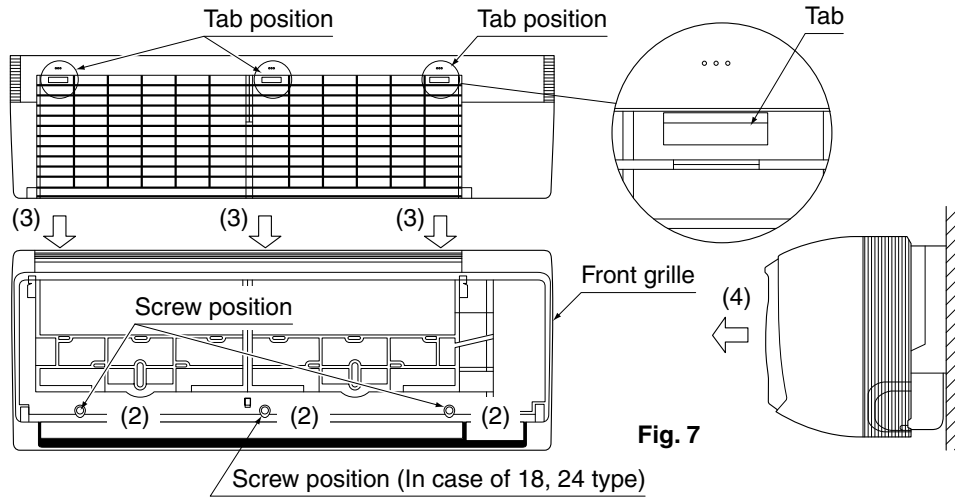
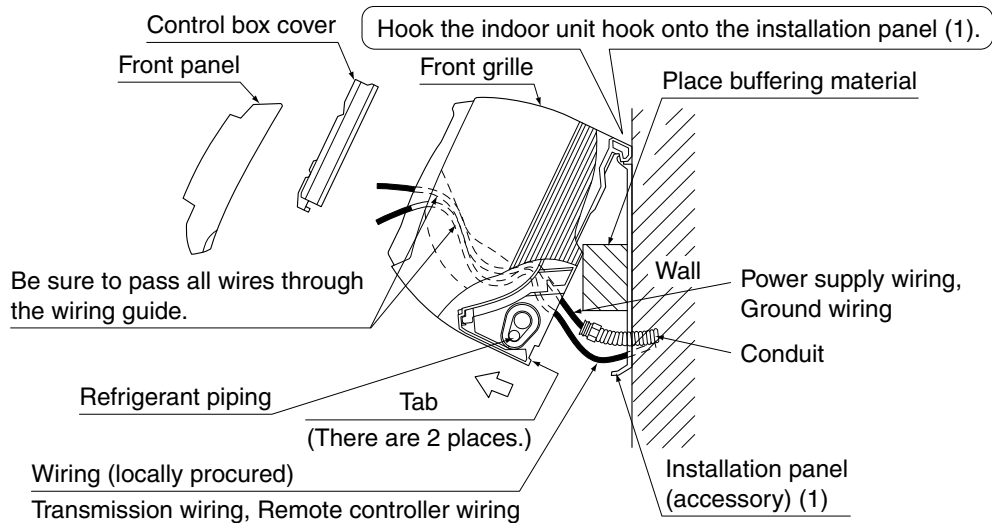

Fig. 7
Fig. 9
(6) Hook the indoor unit onto the installation panel. (Refer to Fig. 9)
(9) Push on both bottom edges of the indoor unit using both hands and hook the tab on the back of the indoor unit onto the installation panel (1). (Refer to Fig. 9)
- At this time remove the buffering material placed in step (6).
- Remove the front grille. (Refer to Fig. 7)